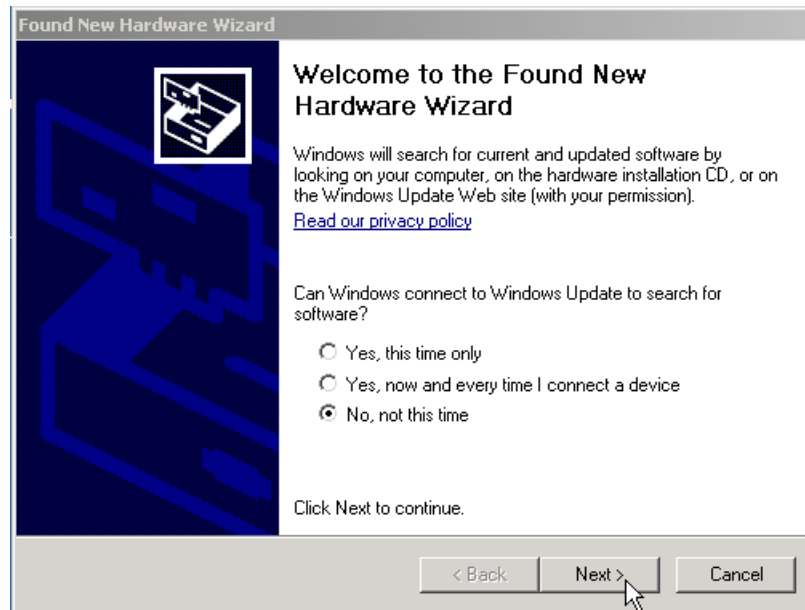

Figure 5 GUI Installation Step 4
4. You may see a screen as shown in Figure 5. Select "**No, not this time**" and press "Next."